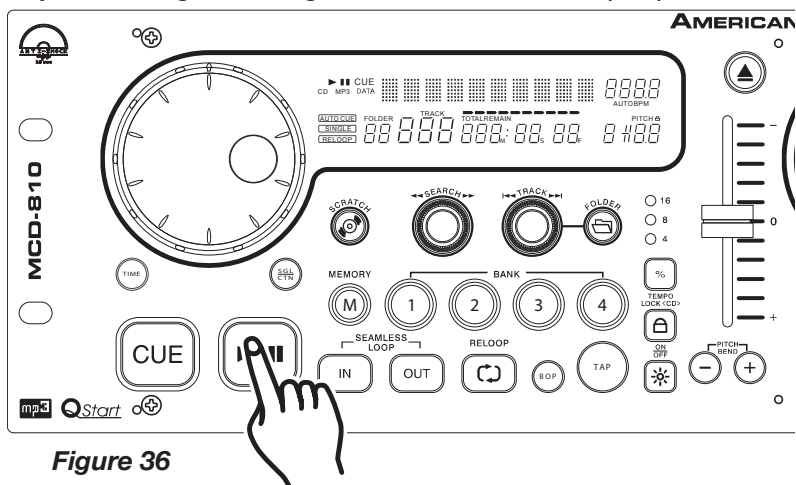

Figure 36
- 1) Press the *PLAY/PAUSE BUTTON* (22) so music is playing (Figure 36).